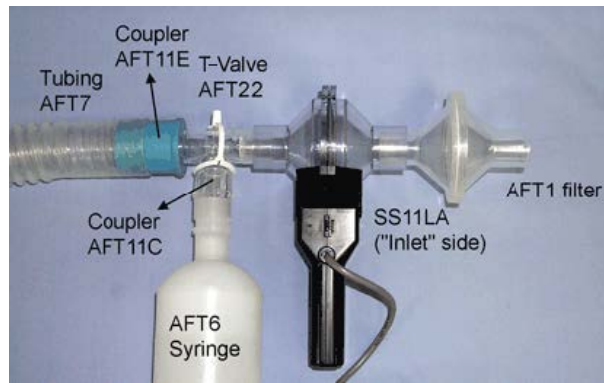

Figure 3: Schematic of airflow accessories connected to Gas-System2
2. Assemble airflow accessories and connect them to the gas chamber. Keep in mind that some of these components might already be assembled (do not duplicate). See Fig. 3 for a diagram.